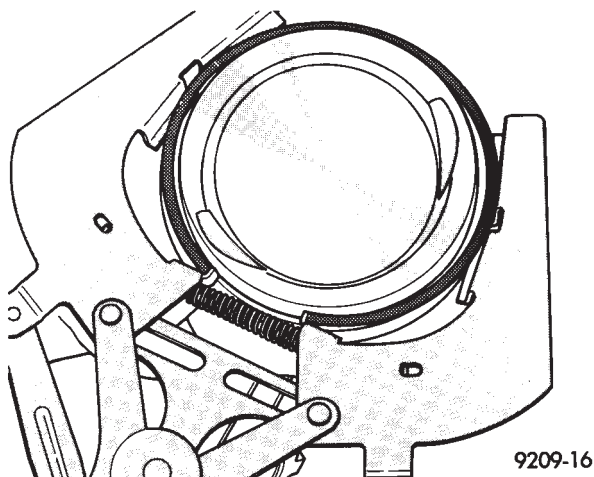

Fig. 43 Piston Rings—Removing and Installing
- (1) ID mark on face of upper and intermediate piston rings must point toward piston crown.
- (2) Using a suitable ring expander, remove upper and intermediate piston rings (Fig. 43).
- (3) Remove the upper oil ring side rail, lower oil ring side rail and then oil ring expander from piston.
- (4) Carefully clean carbon from piston crowns, skirts and ring grooves ensuring the 4 oil holes in the oil control ring groove are clear.